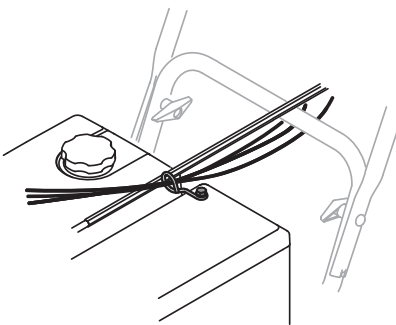

Figure 2-32
9. Check that all cables are properly routed through cable guide on top of engine. See Figure 2-32.
10. Check that all cables are properly routed through cable guide on top of engine. See Figure 2-32.